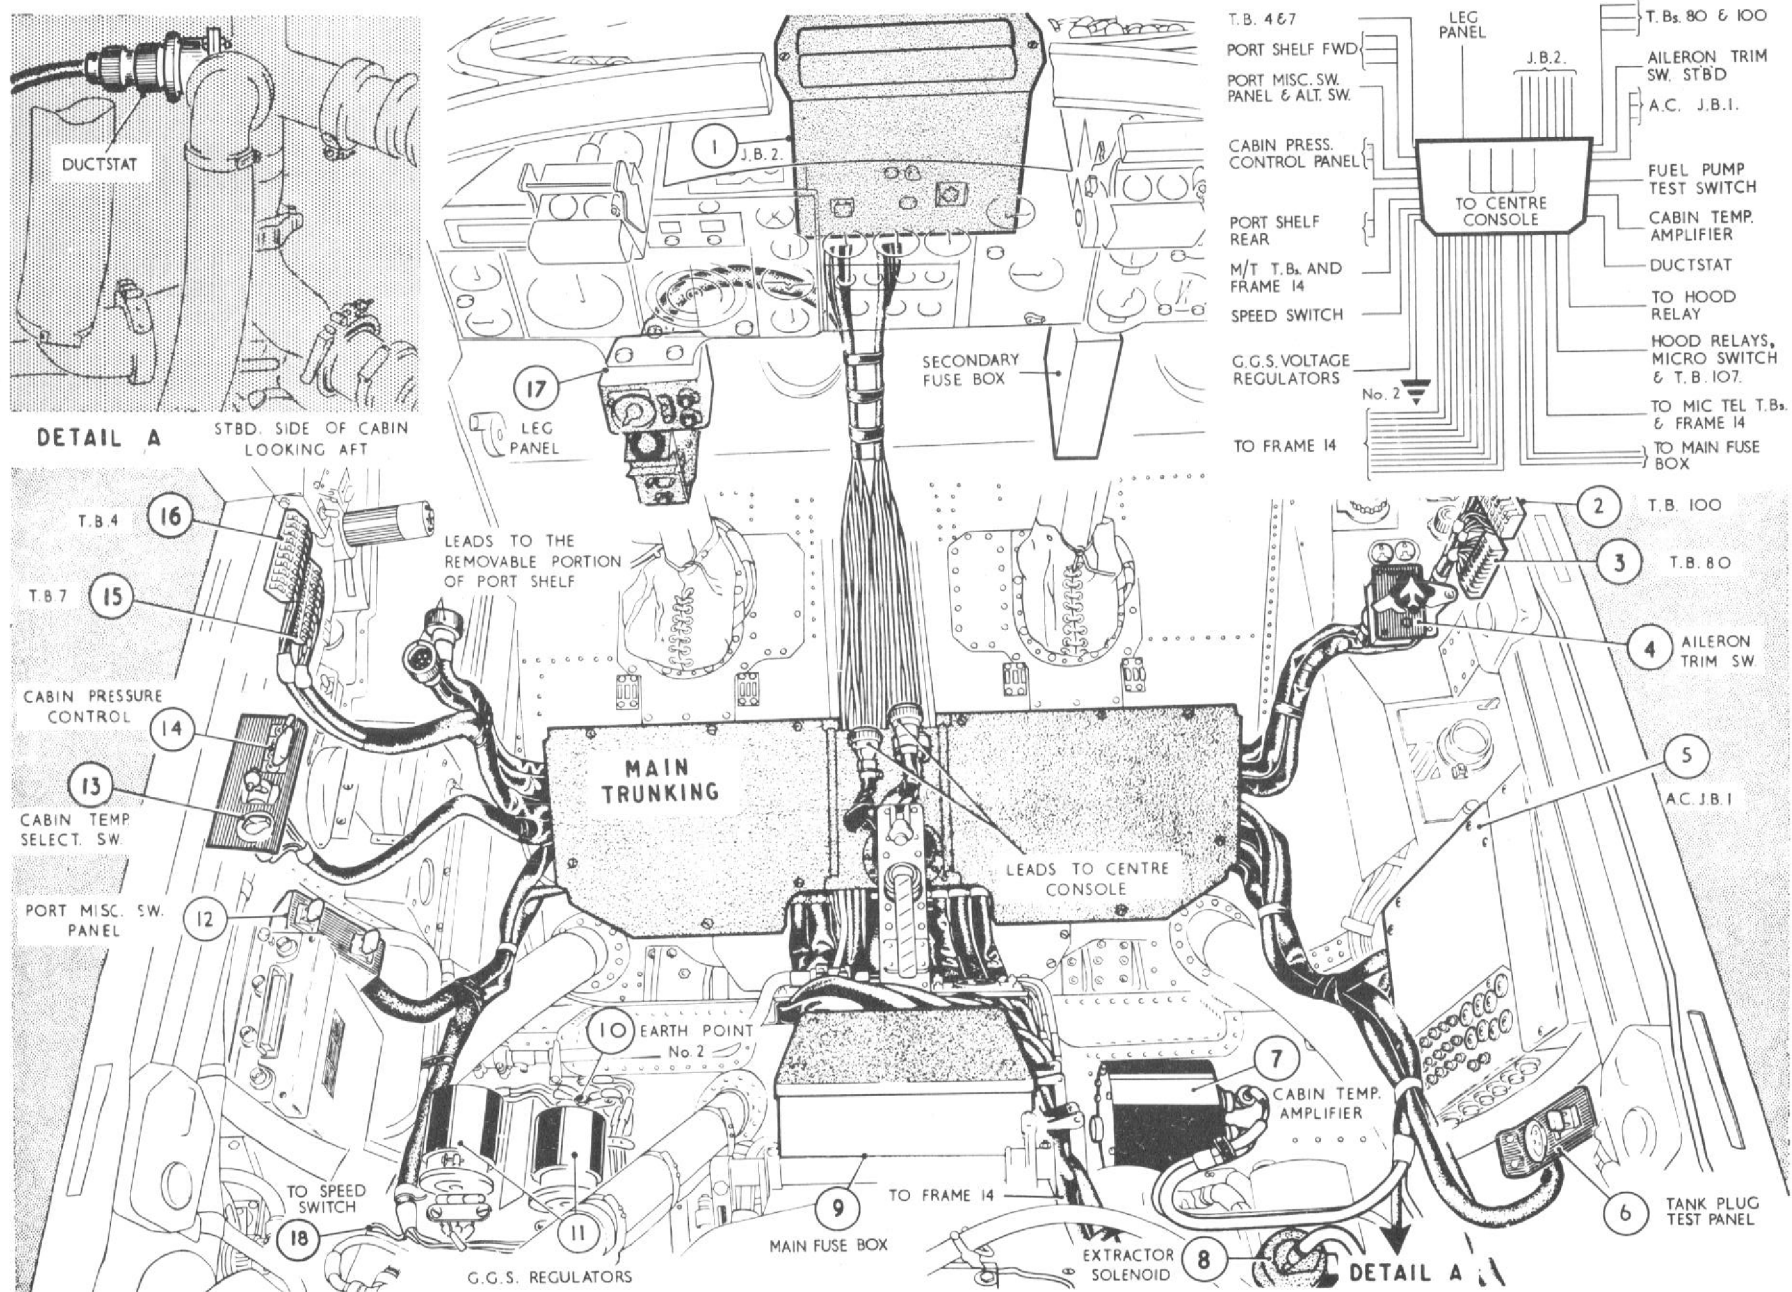

Fig.1 Removal of main trunking
## Main trunking (fig.1 and 2)
- (a) Cable assemblies F.1A, F.3A, F.8A, F.10, F.14A, F.17A and A.12 from junction box number 2, (1) in fig.1, and cable assembly F.6A from the leg panel (17).
- (c) Cable assembly F.88 from terminal blocks 4 and 7 (15 and 16) on the port side of the cabin between frames 9 and 10, together with cable assembly F.85 from the equipment on the port miscellaneous switch panel (12) and from the altitude switch at the rear of the cabin port shelf.
- (d) Cable assembly F.94 from the speed switch, (18), the gyro gun sight voltage regulators (11), and earth point number 2 (10).
- (e) Cable assemblies F.74 and F.86 from terminal block 80 (3) and the trim switch (4). Cable assembly F.87 from terminal block 100 (2). These terminal blocks are located on the starboard side of the cabin between frames 9 and 10.
- (f) Cable assembly F.25, with ends A and D of F.33 from a.c. junction box No.1 (5) and earth point No.1; disconnect end B of F.33 from the fuel pump test switch.
- (h) Cable assemblies F.43 and F.80 from the cabin temperature control magnetic amplifier (7) and the ductstat (Detail A).
- (i) Cable assemblies F.89, F.90, and F.91 from the main fuse box (9).
- (j) Cable assembly F.106 from the extractor valve solenoid (8), and ends B, C, E and F of F.146 from the hood microswitch, the hood light relay. T.B.107. and the hood relay respectively.